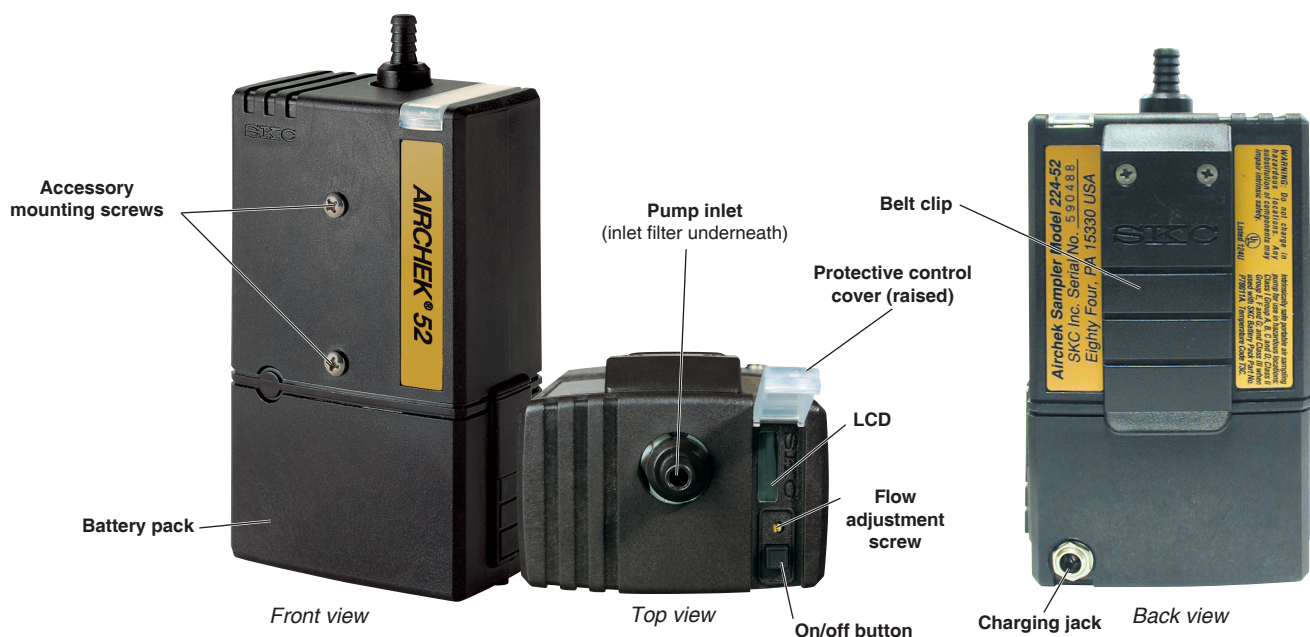

Figure 1. AirChek 52 Sample Pump
The AirChek 52 Sample Pump (Figure 1) is designed for rugged industrial use at flows from 5 to 3000 ml/min. Ideal for on-worker applications, use the AirChek 52 for short-term or full-shift sampling with sorbent tubes, impingers, cyclones, PPIs, or filter cassettes.
3. Insert the charging plug end of the cable into the jack on the back of the pump's battery pack (Figure 1).
4. Using a screwdriver, set the pump flow rate by turning the flow adjustment screw on top of the pump (Figure 1), **clockwise** to increase or **counterclockwise** to decrease flow, until the calibrator indicates the method-specified flow rate. Take a minimum of three readings and record the average flow rate, as per OSHA/NIOSH instructions.
- b. For **sampling with an impinger**, mount the single or dual impinger and trap (SKC Cat. No. 225-20-01 or 225-20-02) to the face of the sampler using the accessory mounting screws (Figure 1) or place them in a holster at the worker's waist.
3. Set the pump flow rate to 1.5 L/min. Using a small screwdriver, turn the flow adjustment screw on top of the pump (Figure 1), **clockwise** to increase flow or **counterclockwise** to decrease flow, until the calibrator indicates 1.5 L/min.